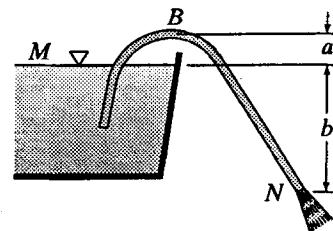

Figure X5.2.2
5.2.3 Refer to Fig. X5.2.2. Assume  $a = 1$  m,  $b = 4$  m, and the flow to be frictionless in the siphon. Find the rate of discharge in  $\text{m}^3/\text{s}$  and the pressure head at B if the pipe has a uniform diameter of 150 mm.